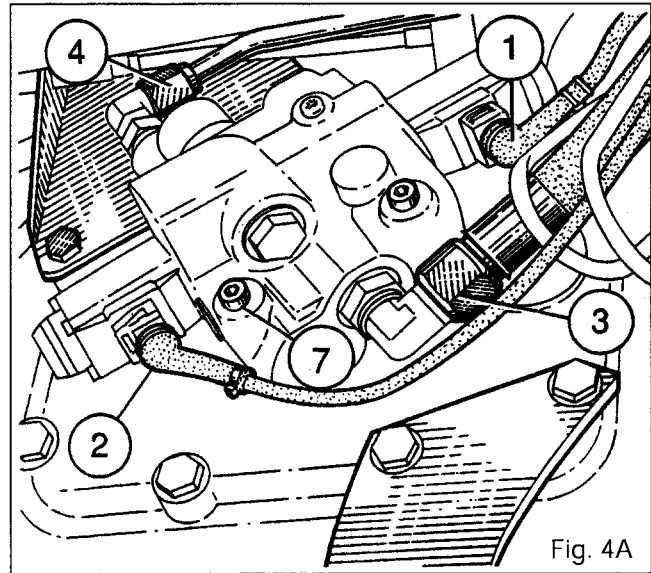

Fig. 4A
1. Mark and disconnect the harnesses of the lift **(1)** and lower **(2)** solenoid valves (Fig. 4A).
2. Disconnect and plug the supply hose **(3)** of the valve and the supply tube **(4)** to the lift cylinders (Fig. 4A).